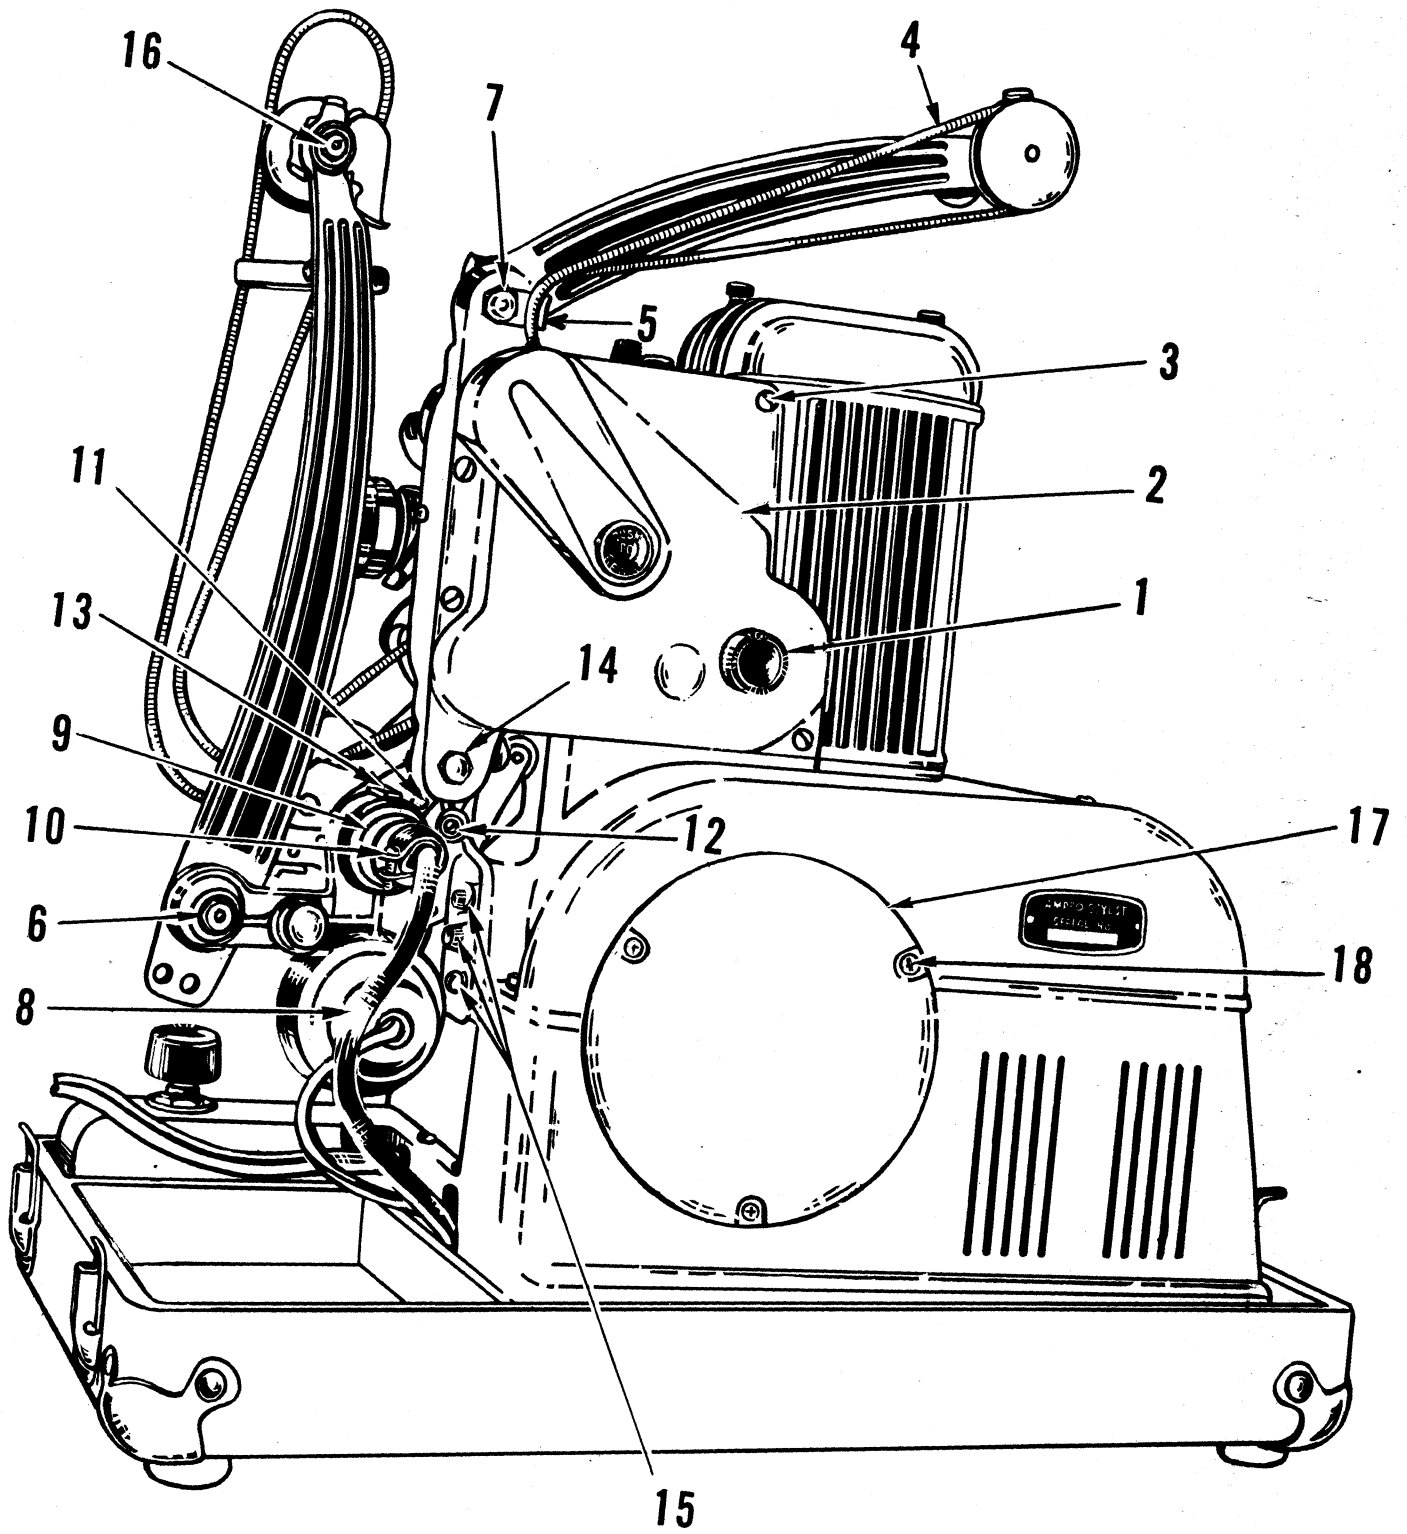

Fig. 2
- (a) Take off the inching knob (1 Fig. 2) and the four screws (3 Fig. 2) which hold the rear cover (2 Fig. 2) in place and remove rear cover. Brush out dirt from gears and inside of compartment and remove any surplus oil which may have accumulated. Wipe the gears with a cloth saturated with Amproil.